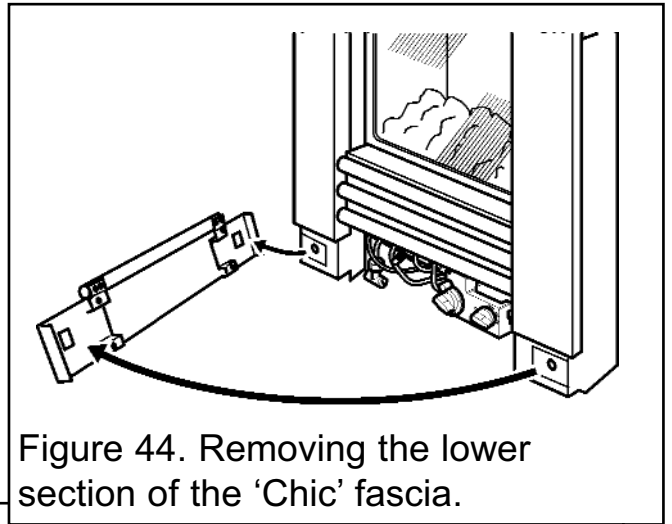

Figure 44. Removing the lower section of the 'Chic' fascia.
- The lower section of the fascia is secured with magnets. Remove this by pulling clear of the fascia (See figure 44).